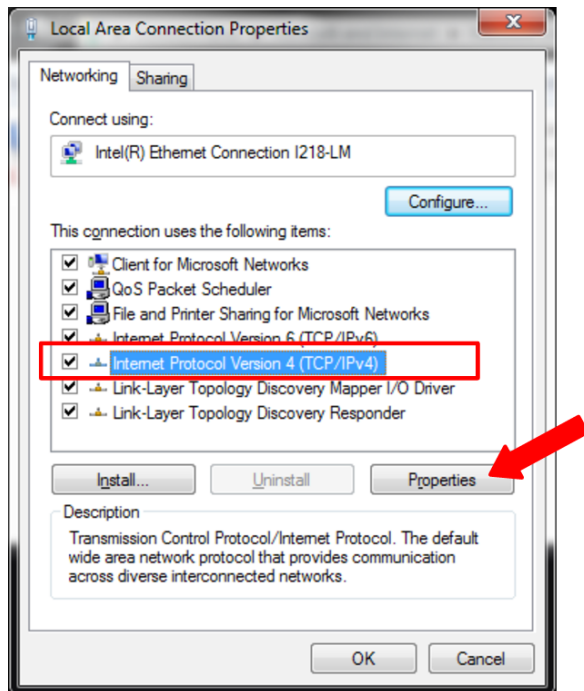

Figure 2.4: Setting TCP/IPv4 properties
4. In the “Local Area Connection Properties” window, confirm or place the check mark in front of “Internet Protocol Version 4 (TCP/IPv4)” (see Figure 2.4).